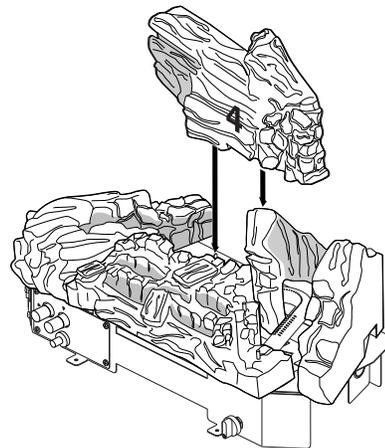

Figure 26 - Installing Log #4 (Model VGX30NT Shown)
4. Place log #4 onto the tabs on the back of the base. It will lay on the “ledge” on the back of log #3 (see Figure 26).